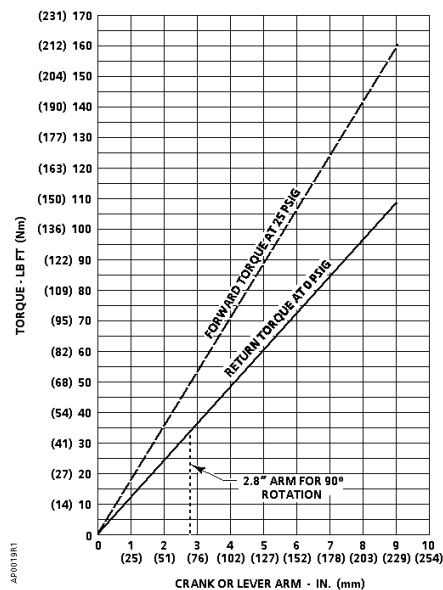

Figure 1. Torque Rating.
Torque rating	See Figure 1
3. If damper rotation is other than 90°, use Figure 1 and Table 2 to determine the actuator assembly torque rating. Then, divide actuator assembly torque rating by damper torque rating per unit of area for job conditions to determine damper area that can be controlled. Make sure the torque units used are the same.
3. Figure 1 shows the forward and return torque. Determine which is most important for the application. Frequently, return torque is used for closing and forward torque for opening. In Figure 1, follow crank or lever arm length line up to the torque curve selected to determine the torque rating of the actuator assembly.
Table 2. Arm Length Versus Rotation (See Figure 1)